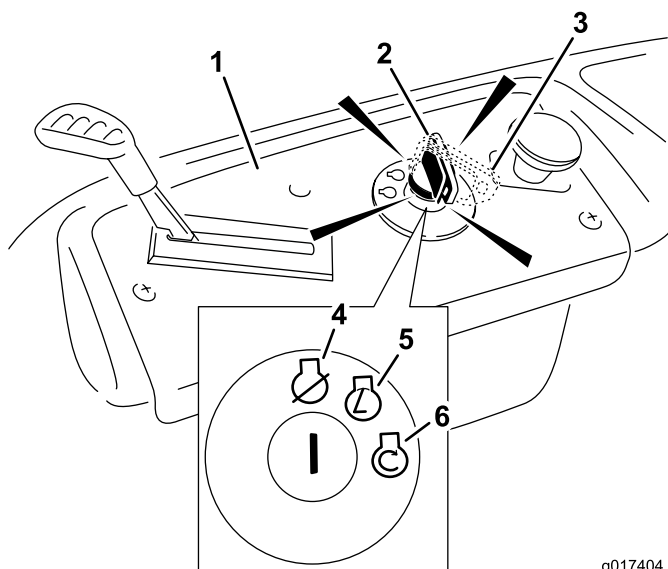

Figure 14
4. Turn the ignition key to Start to energize the starter (Figure 14).
4. Turn the ignition key to Off (Figure 14) and remove the key.